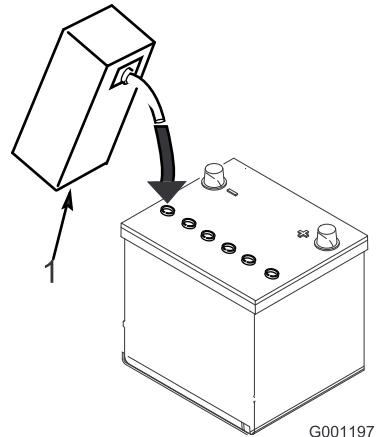

Figure 7
- Carefully fill each cell with electrolyte until the plates are covered with about 6 mm (1/4 inch) of fluid (Figure 7).
- Allow approximately 20 to 30 minutes for the electrolyte to soak into the plates. Fill as necessary to bring the electrolyte to within about 6 mm (1/4 inch) of the bottom of the fill well (Figure 7).